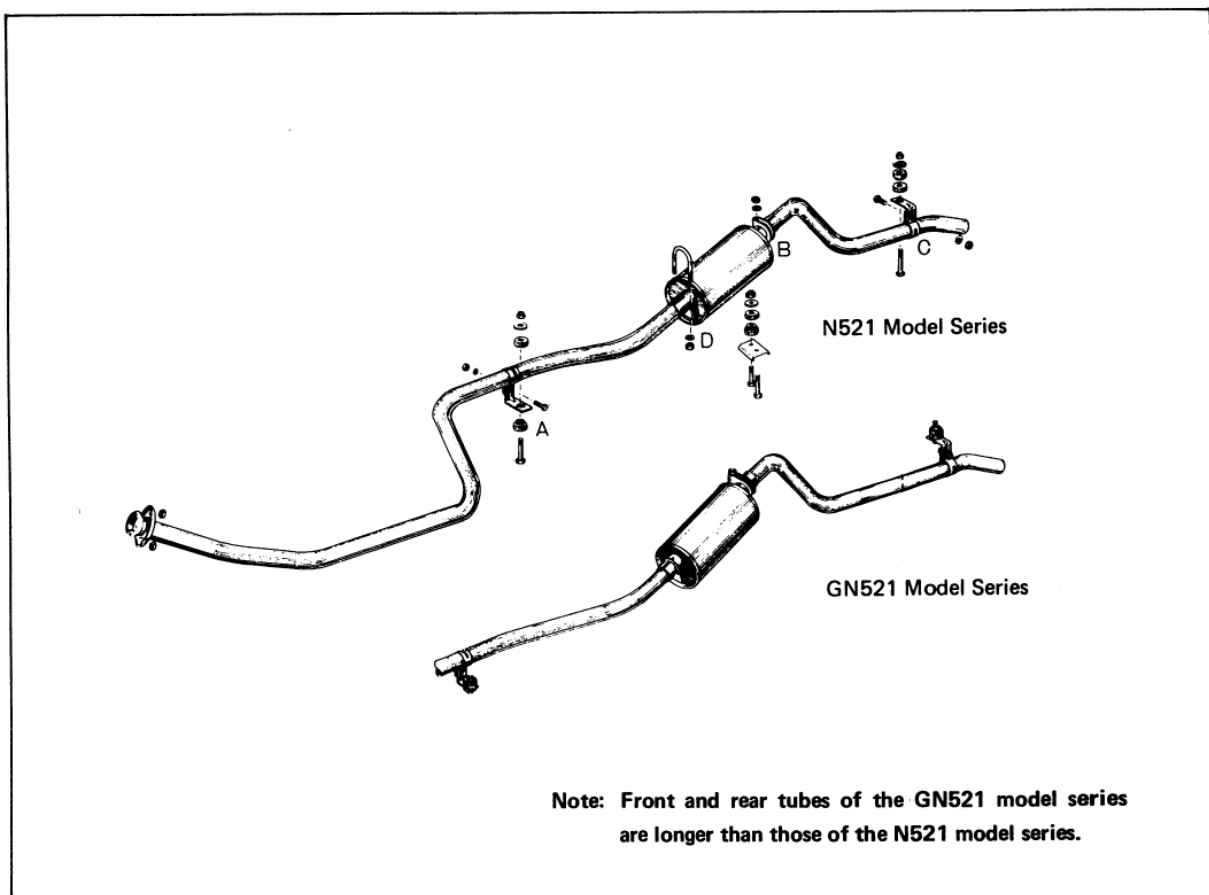

Fig. FE-10 Exhaust construction for N521 and GN521 models
1. Remove mount bolts A, B, and C. See Figures FE-10 through FE-13.